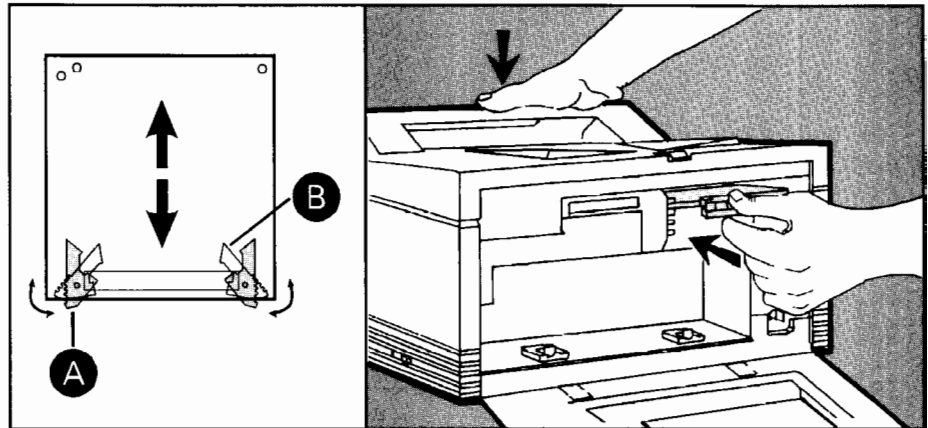

Figure F-6. Seating the First Board
9. Fully seat the board by holding the printer with your free hand and **firmly** pushing against the flat green plastic area (see figure F-6). When the board is fully seated, the green tabs on the memory board move from position **A** to position **B** and no longer move.